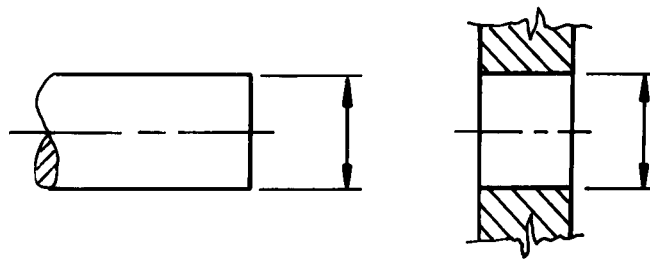

FIG. 6
- (a) A shaft and hole, as shown in Figure 6, are to be manufactured to the following sizes.